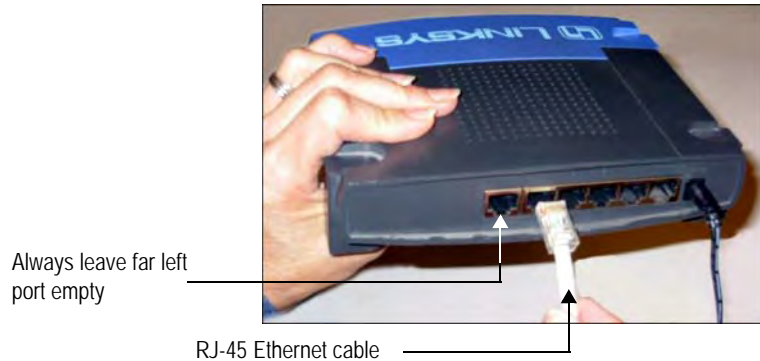

Figure 3.3 Connecting RJ-45 Ethernet Cable to Router, Port 1
- 3 Leaving the far left port empty, connect one end of the RJ-45 Ethernet cable into one of the four slots in the router. See Figure 3.3.